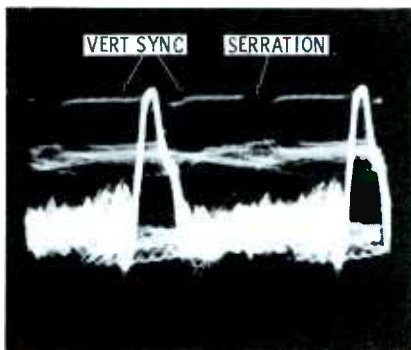

Fig. 1. Faint line at top is normal; it's traced by vertical sync pulses.
2. Some components of normal signals produce faint pips or lines that don't show up clearly in most photographs found in service literature. (An example is the line traced by the vertical sync pulses in a composite video waveform taken at 7875 cps—see Fig. 1.)